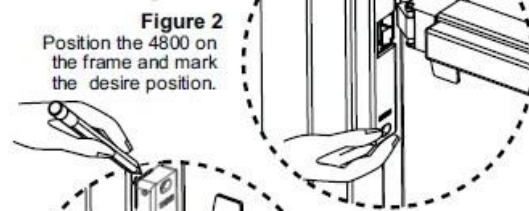

Figure 2
2. Using the marks you just made as your guide, position the 4800 over the mark on the frame. Make sure that the Auxiliary latch rides up properly over the 4800's edge, and is engaged, and that the door is in the fully closed position. See Figure 2